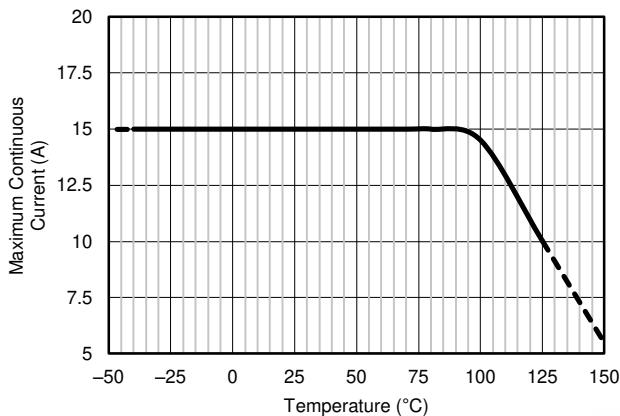

図 7-1. Maximum Current vs Temperature
(3) The supply voltage range maximum is 36 V, but the reference voltage cannot be higher than 18 V.
(4) See 图 7-1 and the *Layout* section for additional information on the current derating and layout recommendations to improve the current handling capability of the device at higher temperatures.
(5) See the セクション 7.3.1 section for additional information regarding the integrated current-sensing resistor.
(6) System gain error includes amplifier gain error and the integrated sense resistor tolerance. System gain error does not include the stress related characteristics of the integrated sense resistor. These characteristics are described in the *Shunt Resistor* section of the *Electrical Characteristics* table.
(7) The internal shunt resistor is intended to be used with the internal amplifier and is not intended to be used as a stand-alone resistor. See the Integrated Shunt Resistor section for more information.
External factors (such as ambient temperature, external air flow, and PCB layout) can contribute to how effectively the heat developed as a result of the current flowing through the total package resistance can be removed from within the device. Under the conditions of no air flow, a maximum ambient temperature of 85°C, and 1-oz. copper input power planes, the INA250 can accommodate continuous current levels up to 15 A. As shown in 図 7-1, the current handling capability is derated at temperatures above the 85°C level with safe operation up to 10 A at a 125°C ambient temperature. With air flow and larger 2-oz. copper input power planes, the INA250 can safely accommodate continuous current levels up to 15 A over the entire –40°C to 125°C temperature range.